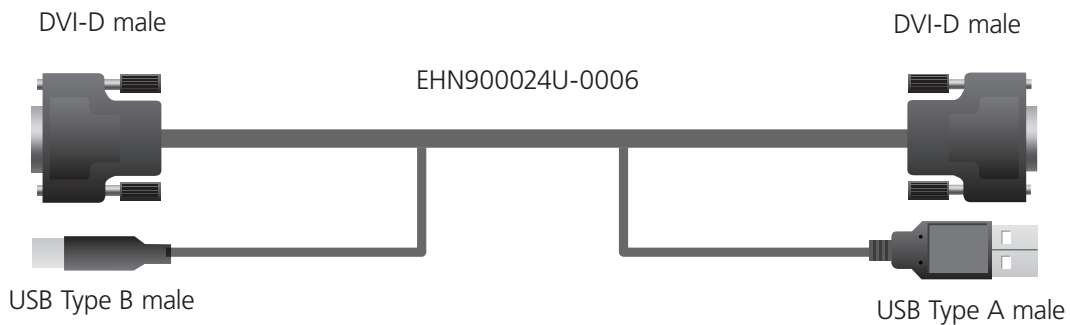

Figure 3-12. Cables.
11. Once the ServTray is installed in the 4-post rack or cabinet, you can connect it to a computer. The KVM module's connectors attach to the KVM connectors on a PS/2 CPU via the 3-in-1 (PS/2, PS/2, VGA) Cable (included), or they connect to the HD15 and keyboard/mouse connectors on a USB CPU via the 2-in-1 (USB, VGA) Cable (included), or they connect to the DVI and keyboard/mouse connectors on a USB CPU via the 2-in-1 (USB, DVI) cable. All cables are shown in Figure 3-12. If you choose to use the Digital Video Interface, connect the DVI cable between the target PC and the KVM Switch Module.